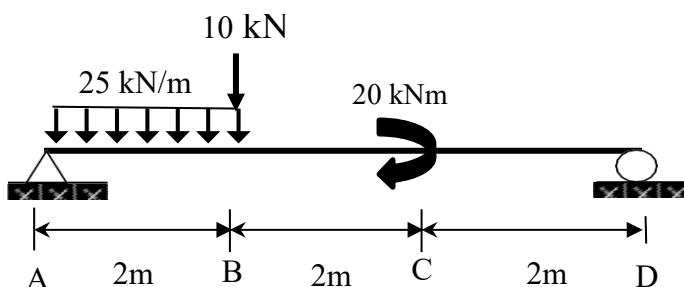

Figure B1 (b) / Rajah B1 (b)
- CLO2 (b) Figure B1 (b) shows a simply supported beam is subjected to the loads. Calculate the reactions at support A and D.
- CLO2 (c) Calculate the shear force and bending moment value with shear force diagram (SFD) and bending moment diagram (BMD) for Figure B1 (b).